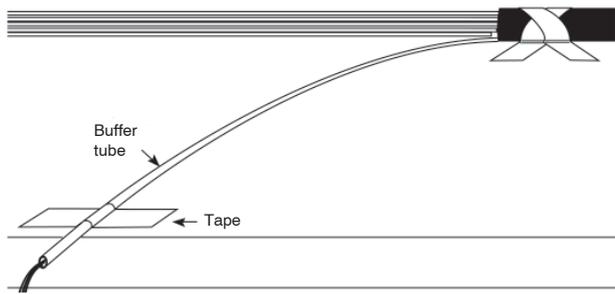

Figure 21
**8.1** Secure the cable end down to a work surface with tape so that the marks on the buffer tubes can reach the work surface edge (see Figure 21).
**8.3** Tape down the buffer tube to receive the BTF so that 1-2 inches of tube overhang the work surface edge as shown in Figure 21.